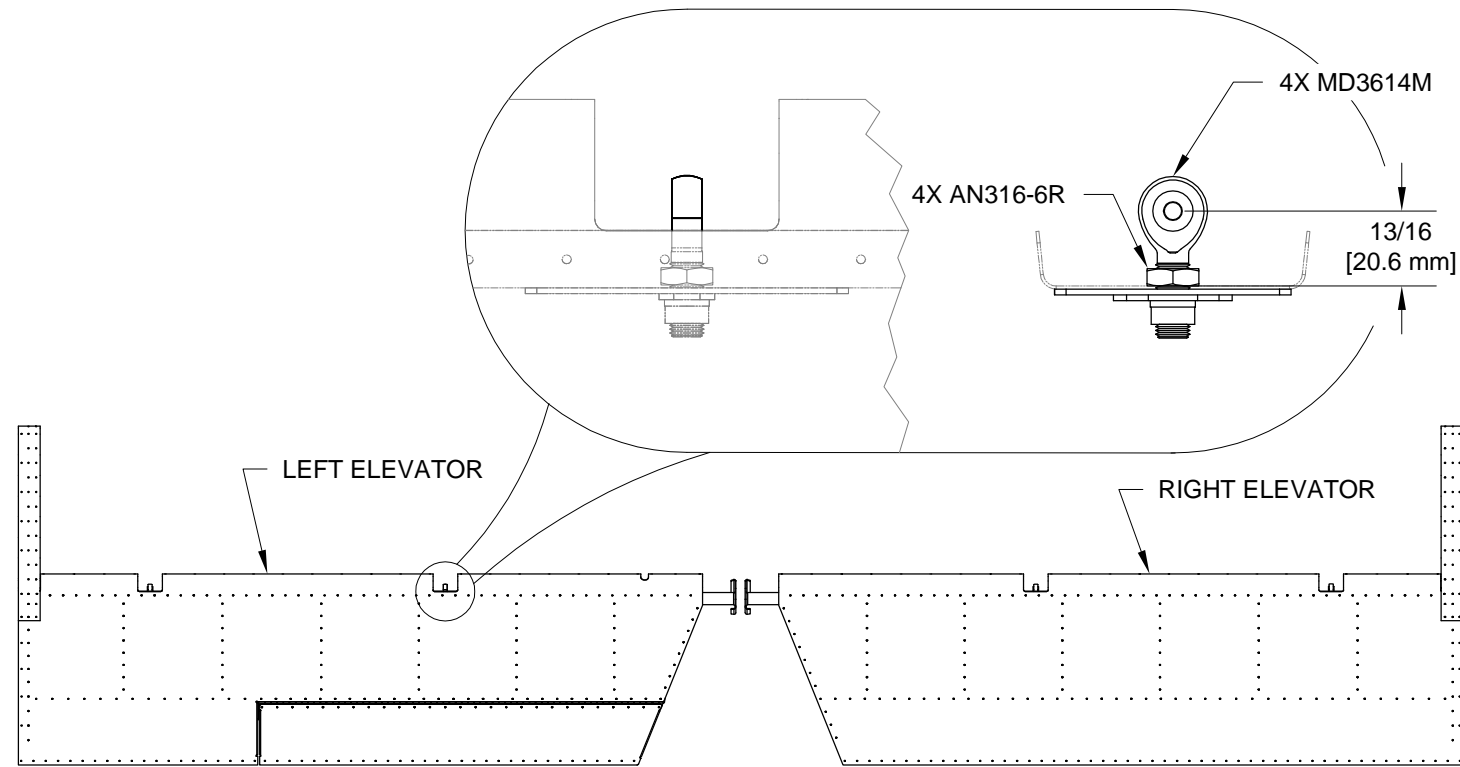

FIGURE 1: ROD END INSTALLATION
Step 1: Install the rod end bearings and jam nuts into the Left and Right Elevator as shown in Figure 1.
Tighten the nuts after getting as close as possible to the the rod end bearing engagement distance shown in Figure 1.